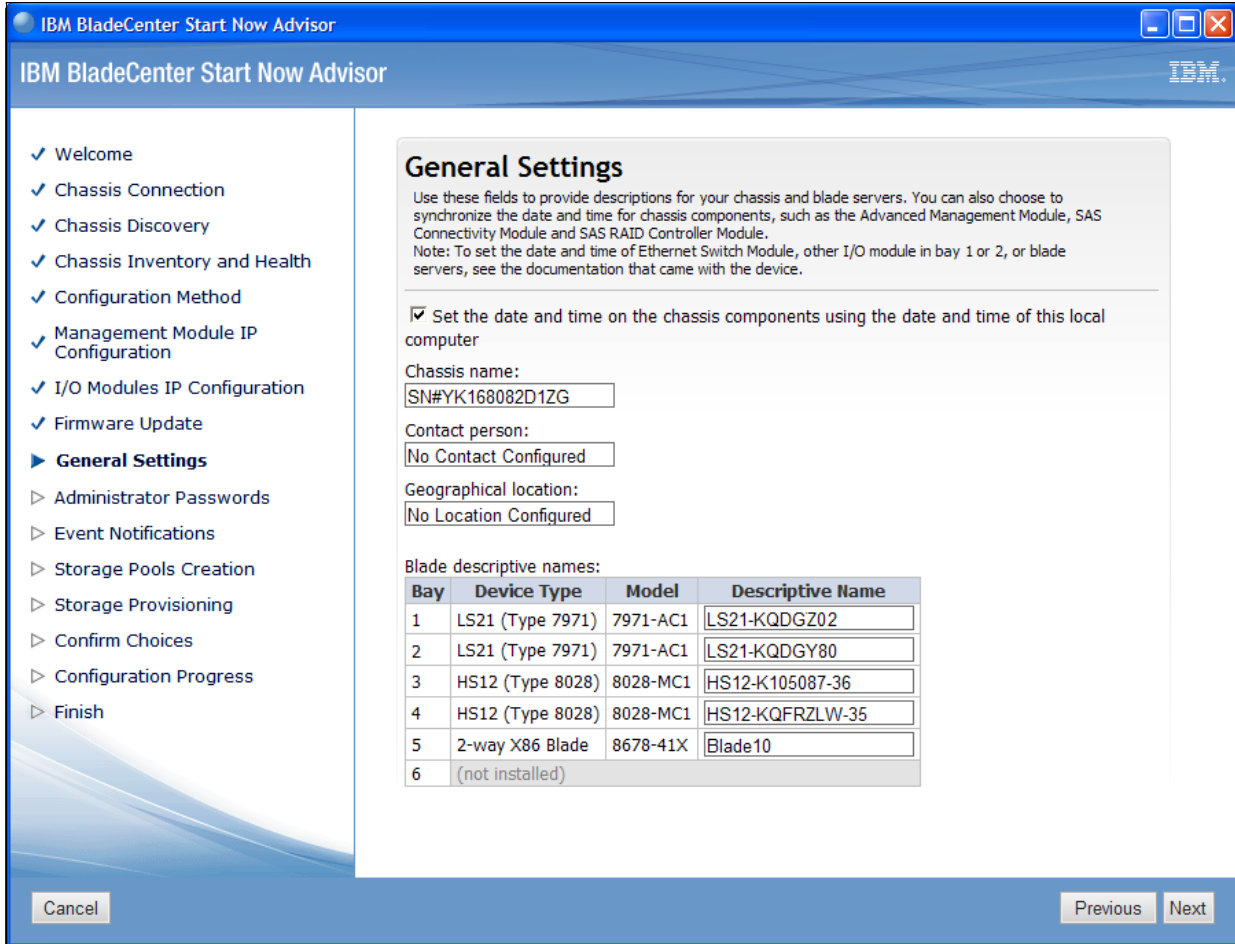

Figure 2-9 General settings for BladeCenter S AMM
- Enter the AMM name, location, and contact information in the “General Settings” panel, (Figure 2-9). Information in these fields is intended for administrative purposes only and is not used by the AMM for host name or alert notification. Another option in this step is to enter the Descriptive Name of each blade server currently present in the BladeCenter S chassis.